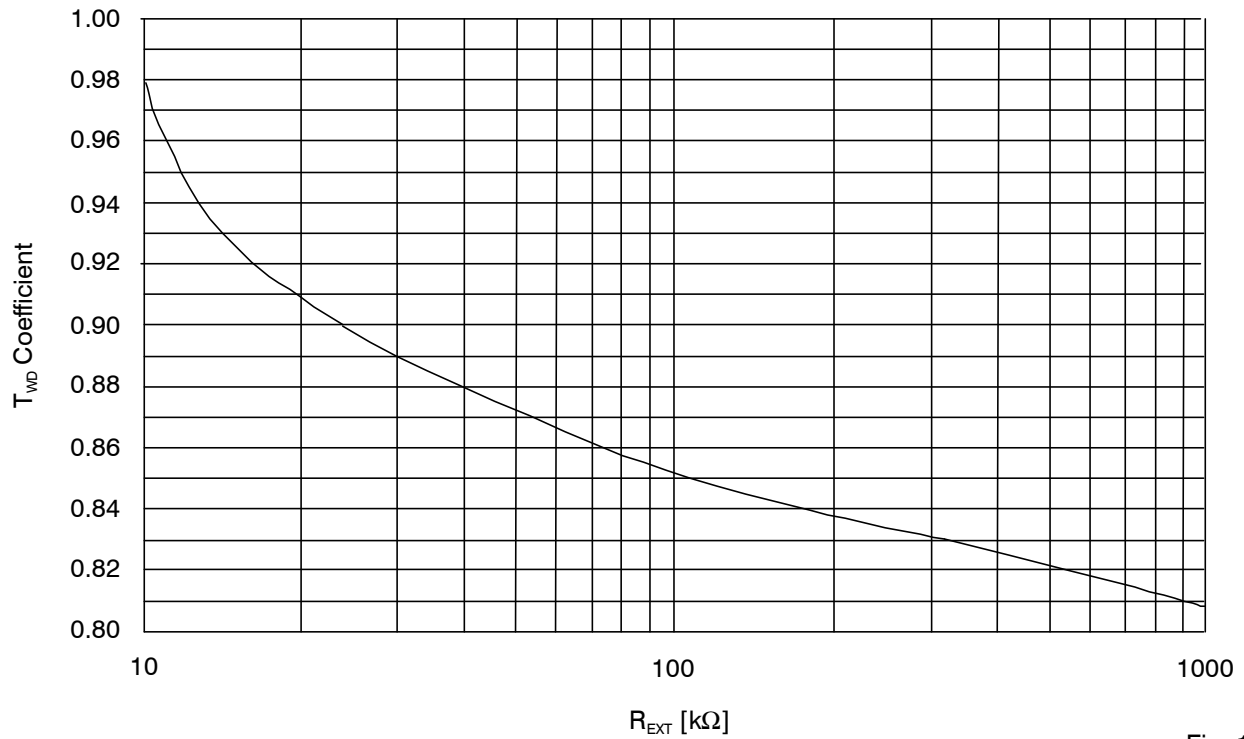
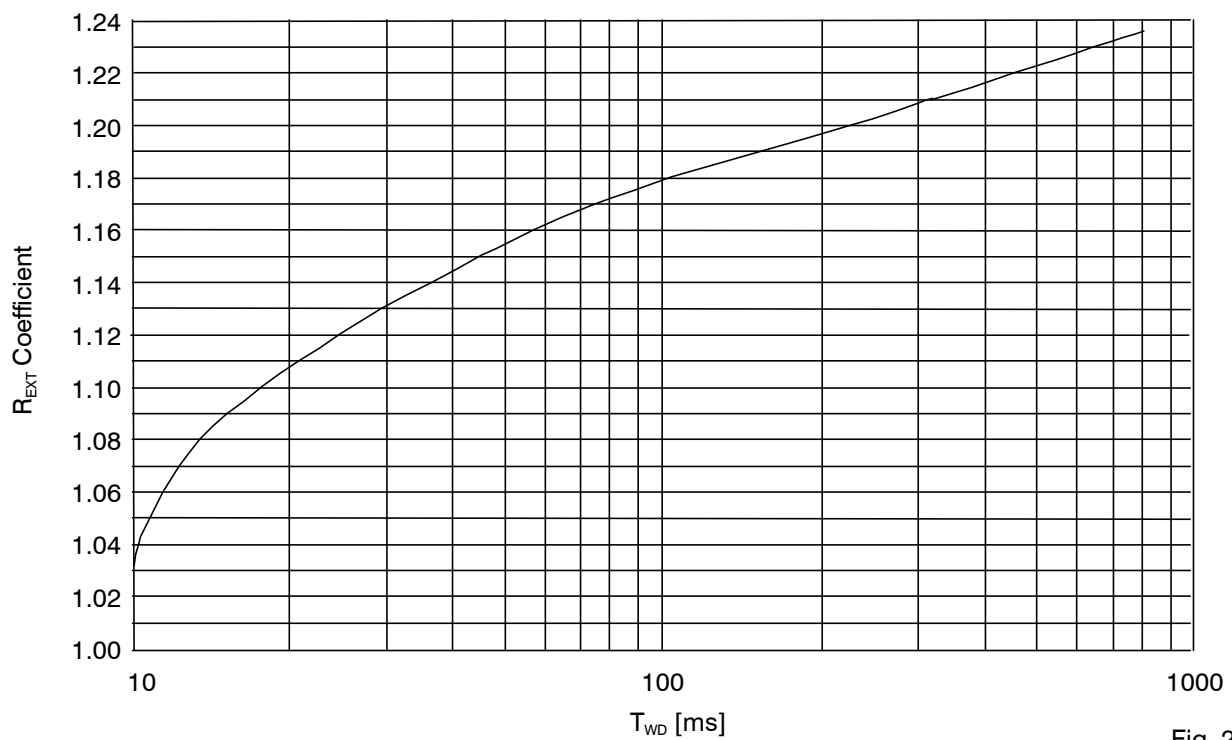

Fig. 19
Fig. 20
Related to curves (Fig. 10 to Fig. 20), especially Fig. 19 and Fig. 20, the relation between T_{WD} and R_{EXT} could easily be defined. Let us take an example describing the variations due to production and temperature:
2. Related to Fig. 20, the coefficient (T_{WD} to R_{EXT}) is 1.125 where R_{EXT} is in k Ω and T_{WD} in ms.